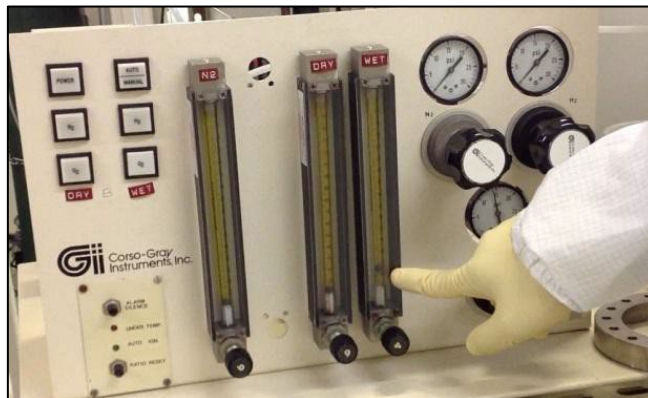

Figure 9 – Flowmeters on the gas panel for the Lindberg/Blue Oxidation Furnace
11. Refer to **Figure 9**: Turn on the Wet O₂ switch and set the flow to a **setting of 10-20** on the Wet O₂ flowmeter.